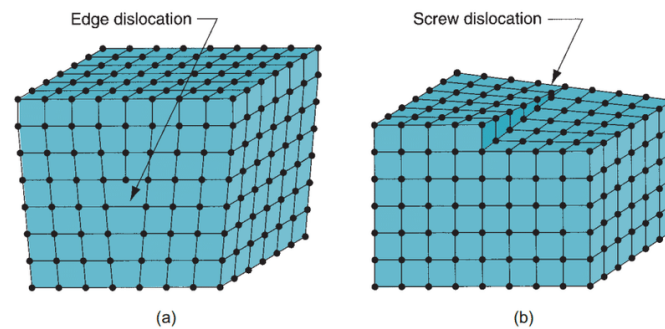

Figure 4 / *Rajah 4* : Edge and screw dislocation / *kehelan tepi dan skru*
- (iii). Figure 4 illustrates the edge and screw dislocation, which are linear defects defined as one-dimensional defects around which atoms are misaligned in solid materials. Using edge dislocation, draw and explain about dislocation motion in solids.